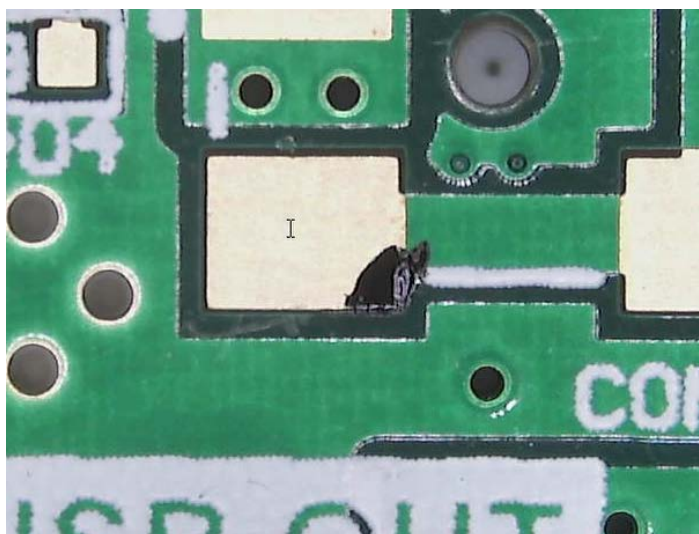
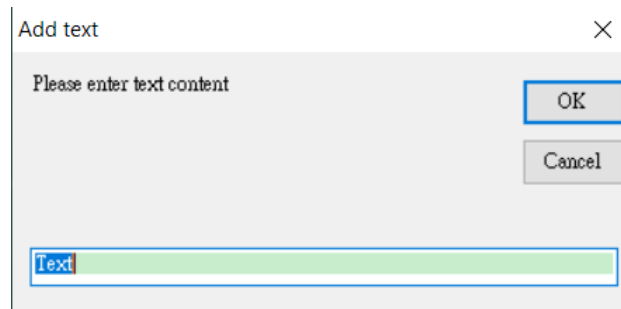
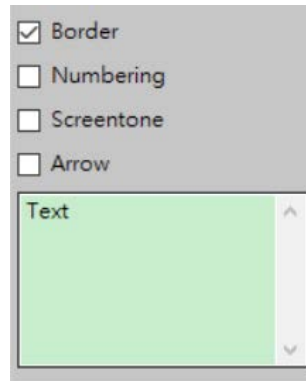
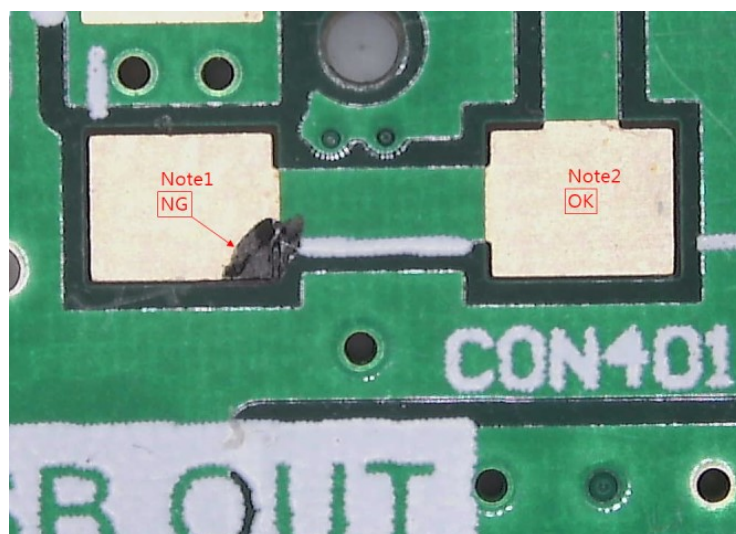

Fig 5-33 Insert Text
Fig 5-34 Input Text
Fig 5-35 Advanced setting for Insert Text
Fig 5-37 Numbering of footnotes
(20) Insert Text: Use Insert Text  function to insert footnote on picture. When Insert Text function is activate, the mouse type will change to Input Text, see Fig 5-33 Double-Click to insert text, see Fig 5-34. If wanted to re-edit content or position, choose MOVE function to make adjustment, see Fig 5-35. Adjust position with arrow sign mark, see Fig 5-36. Numbering is follow the sequence of footnote, see Fig 5-37.